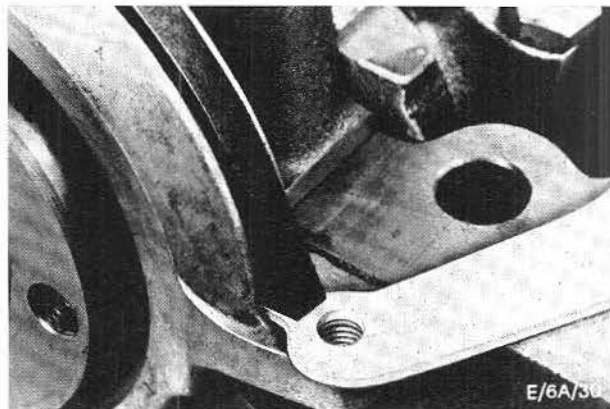

Fig. 55. Fitting sump gasket.
54. Insert rubber seal in groove of rear seal carrier. Apply sealing compound to cylinder block mating surface at joint of cover and rear seal carrier. Place sump gasket in position and slide projections on cork gasket under cut-outs in rubber gasket, Fig. 55.